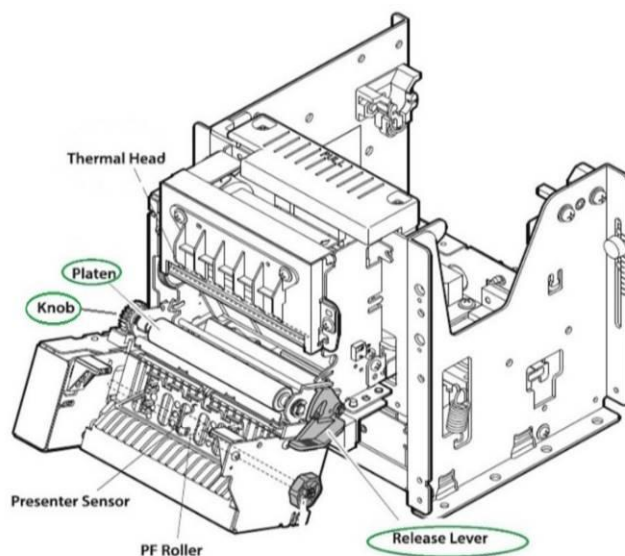

Figure 76. Printer platen cleaning
- Wipe the platen while slowly turning it with the black knob on the left hand side as seen in Figure 76